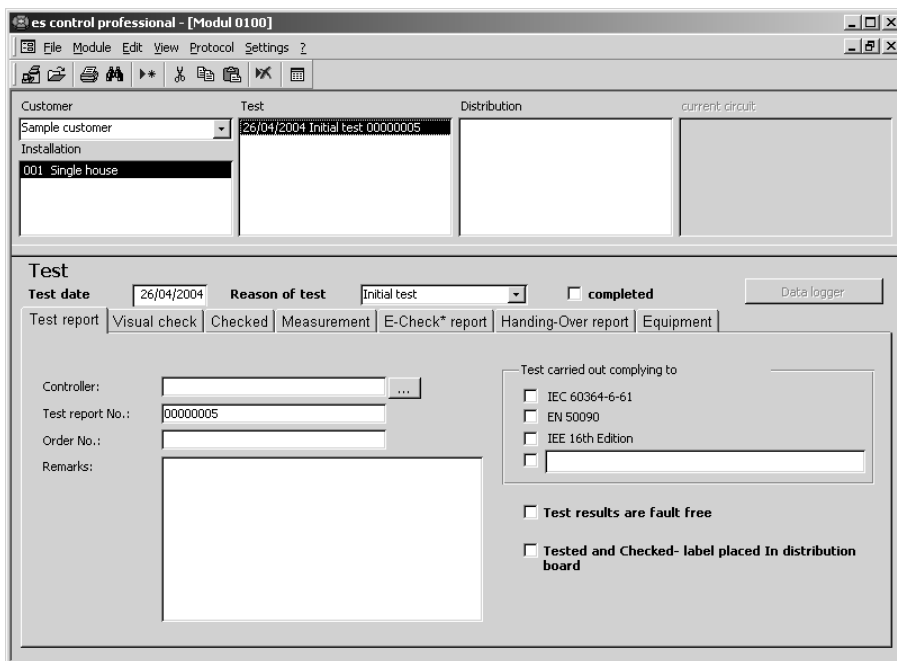

Figure 5.8: Add data record for test
- ▶ Now create a new data record using the “Data record | Add” menu command, or use the context menu which may be accessed by clicking the right mouse key. A test for the “Installation 1” installation at “Customer A” customer is created. The new data record for the test is displayed as shown in Figure 5.8.